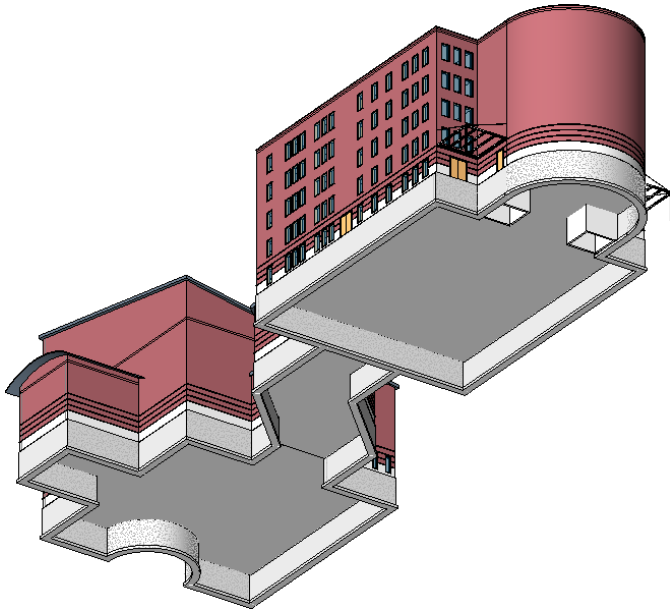

FIGURE 8.60: Doing a 3D investigation to see whether the footings are all in place
- 8. When you've finished picking the walls, go to a 3D view to make sure all the foundations are covered, as shown in Figure 8.60.